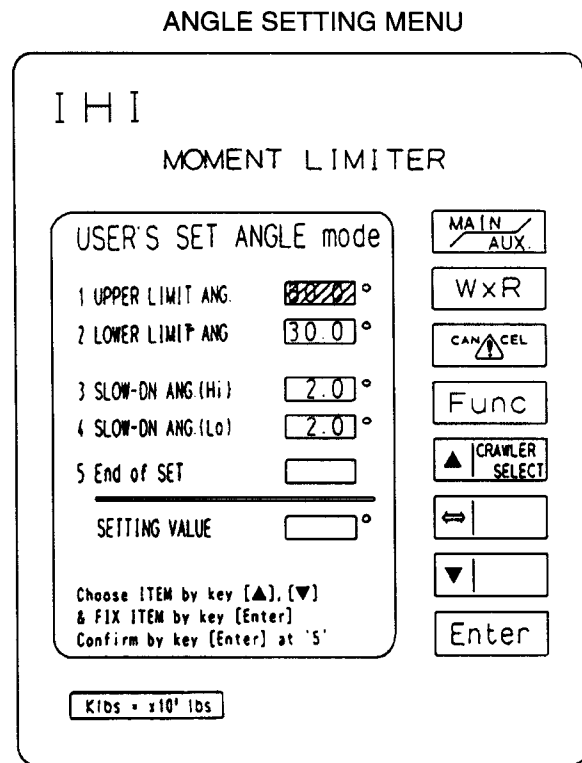

Figure 3
A. Bring the ANGLE SET mode screen up (see Figure 3).
- 3.) Enter the SLOW DOWN ANGLE (HI). (This slows the boom up speed before it reaches the limit. Standard setting is 2°).
- 4.) Enter the SLOW DOWN ANGLE (LO). (This slows the boom down speed before it reaches the limit. Standard setting is 2°).